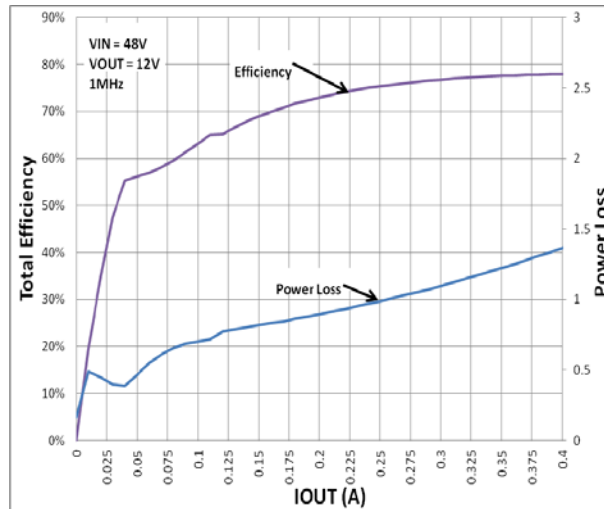

Figure 2 Efficiency
6. Set I_{OUT} to desired level 0 A- 100 mA and measure voltage and current the efficiency should be similar to that shown in Figure 2